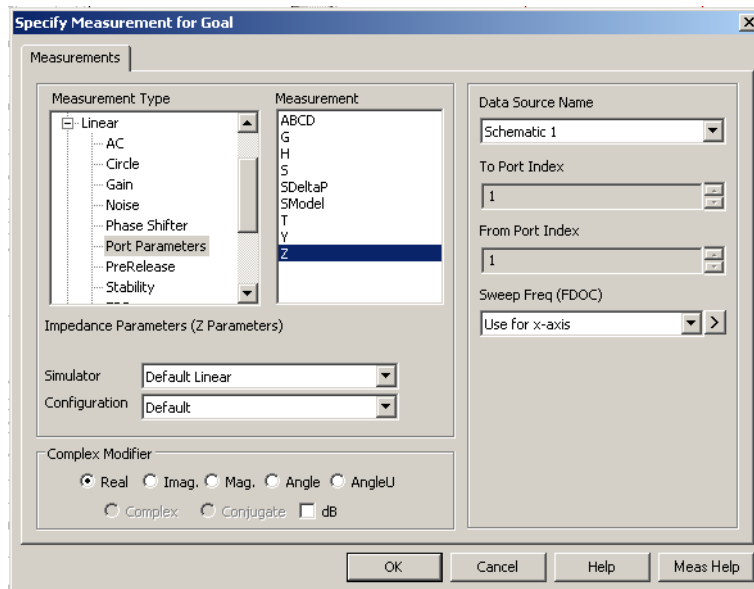
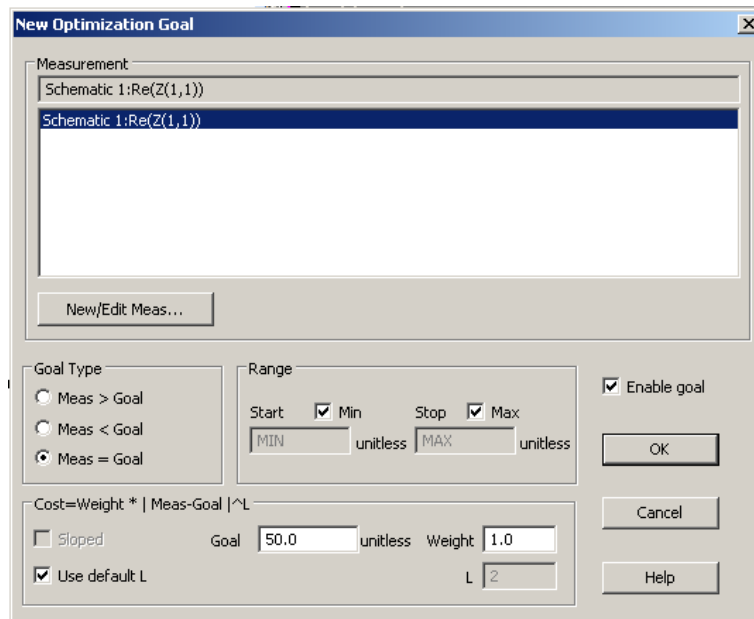

Figure 10.2: Chart 8 : Real Optimizer Goal Measurement
Figure 10.3: Chart 8 : Real Optimizer Goal
- Add an ‘Optimiser Goal’ (right click ‘Optimisation Goals’ in the ‘Project Browser’) which forces the real part of the complex impedance looking into port one to 50Ω . See figure 10.3 and figure 10.2.